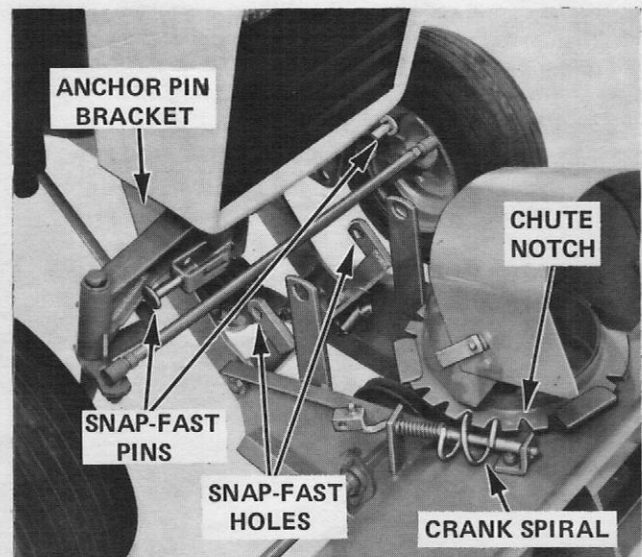

FIGURE 7
2. See Figure 7. Position the auger assembly so the tractor can be lined up with the mounting brackets.
15. See Figure 7. Check the operation of chute crank. If the chute should turn hard, check to see if the crank spiral is binding in the chute notches. If necessary, loosen the spiral adjusting bracket bolt and shift the bracket to relieve the bind. Tighten the bolt following adjustment.